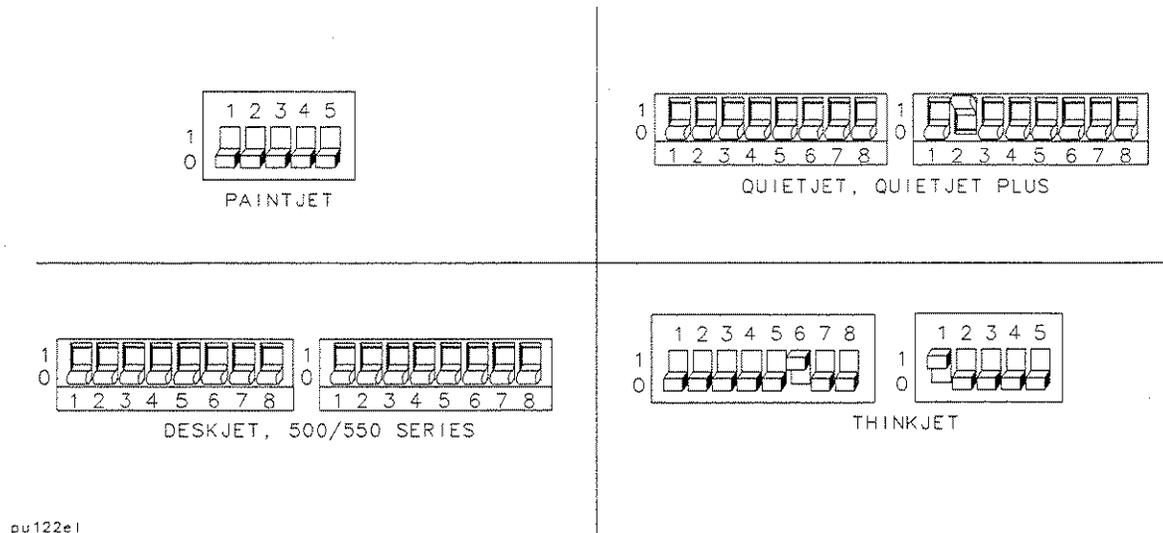

Figure 4
- 2 Figure 4 shows examples of some of the printer's configuration switches set up for 9600 baud. See your printer's documentation for more specific information.